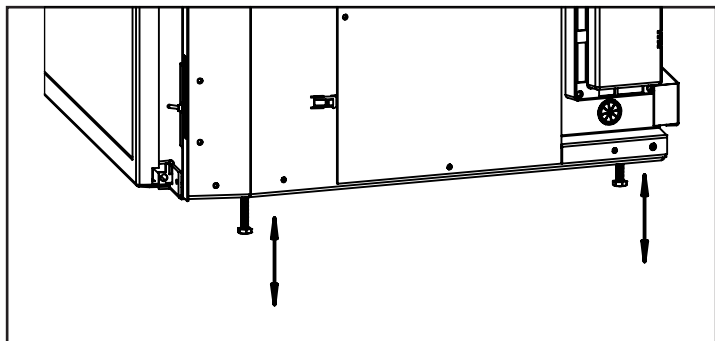

Figure 30: Levelling Legs Position.
5. If the fireplace opening is lower than 25" (635 mm), remove the vent collar plate from the top of the insert by unscrewing the single T-20 Torx screw located on the center top of the stove above the door opening (see Figure 30). Slide the collar plate backwards. Properly secure the vent collar plate to the flexible vent pipe liner(s) previously installed in the chimney. Be careful not to over-stretch the liner(s).
8. Adjust the levelling legs to ensure the unit is level and high enough if a base shelf and/or riser is to be installed. There are four levelling legs on the bottom of the unit (shown in Figure 30).